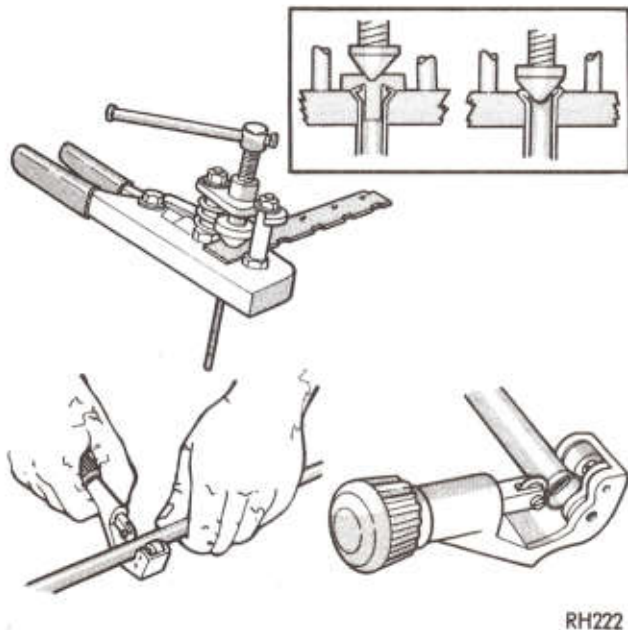

Fig. 4—Cutting and Flaring Steel Tubing
(1) Using Tool C-3478-A, or equivalent, cut off damaged seat or damaged tubing (Fig. 4).
(2) Ream out any burred or rough edges showing on inside edges of tubing. This will make the ends of tubing square and insure better seating of flared end tubing. **Place tube nut on tubing prior to flaring tubing.**
(3) To flare tubing, open handles of flaring Tool C-4047 and rotate jaws of tool until the mating jaws of tubing size are centered in area between vertical posts.
(4) Slowly close handles with tubing inserted in jaws but do not apply heavy pressure to handle as this will lock tubing in place.
(5) Place gauge "Form A" on edge over end of tubing and push tubing through jaws until end of tubing contacts the recessed notch of gauge matching the size of tubing (Fig. 4).
(6) Squeeze handles of flaring tool and lock tubing in place.
(7) Place 3/16 inch plug of gauge "A" down in end of tubing. Swing compression disc over gauge and center tapered flaring screw in recess of disc.
(8) Screw in until plug gauge has seated on jaws of flaring tool. This action has started to invert the extended end of the tubing.
(9) Remove gauge and continue to screw down until tool is firmly seated in tubing.
(10) Remove tubing from flaring tool and inspect seat.